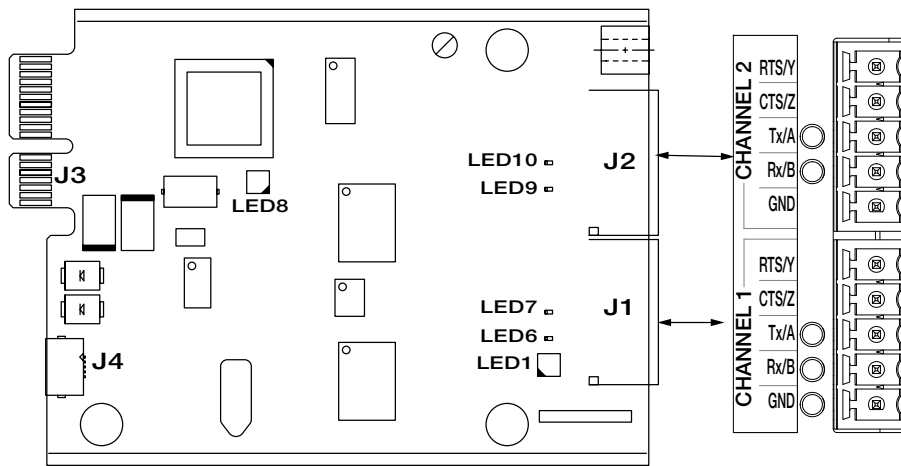

Figure 3. Serial Card Expansion Board
7. Make connections to the option card. See Figure 3 and Table 4.